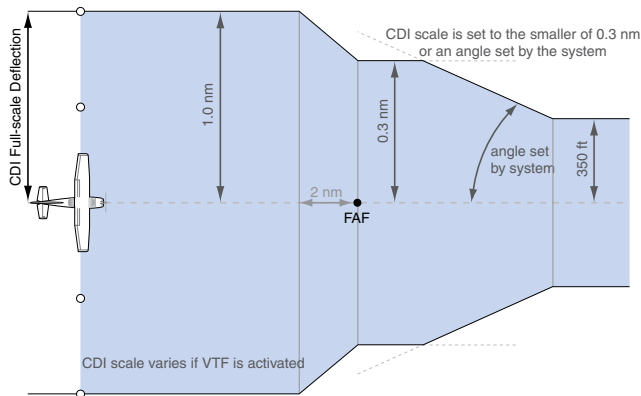

Figure 2-24 Typical LNAV and LNAV+V Approach CDI Scaling
- During **approach**, the CDI scale ramps down even further (Figures 2-24 and 2-25). This transition normally occurs within 2.0 nm of the final approach fix (FAF). The CDI switches to approach scaling automatically once the approach procedure is activated or if Vectors-To-Final (VTF) are selected.